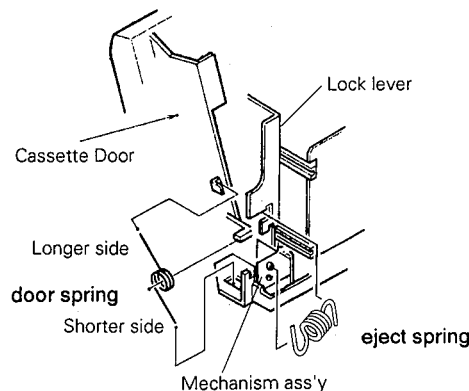

Fig. 2-7
2. Remove the arm shaft the cassette holder (door assembly) from the mechanism holder. (The door spring is engaged with the door side by longer side.) (see Fig. 2-7)
3. Remove the eject spring from lock lever and mechanism assembly. (see Fig. 2-7)
2. Remove the arm shaft of the cassette holder (door assembly) from the mechanism holder. (The door spring is engaged with the door side by the longer side.) (see Fig. 2-7)